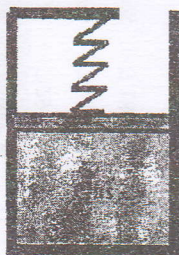

Figure P.8
8. A piston-cylinder device shown in **Figure P.8** contains 0.05 m^3 of a gas initially at 200 kPa. At this state, a linear spring that has a spring constant of 150 kN/m is touching the piston but exerting no force on it. Now heat is transferred to the gas, causing the piston to rise and to compress the spring until the volume inside the cylinder triples. If the cross-sectional area of the piston is 0.25 m^2 , determine the final pressure inside the cylinder. [6]